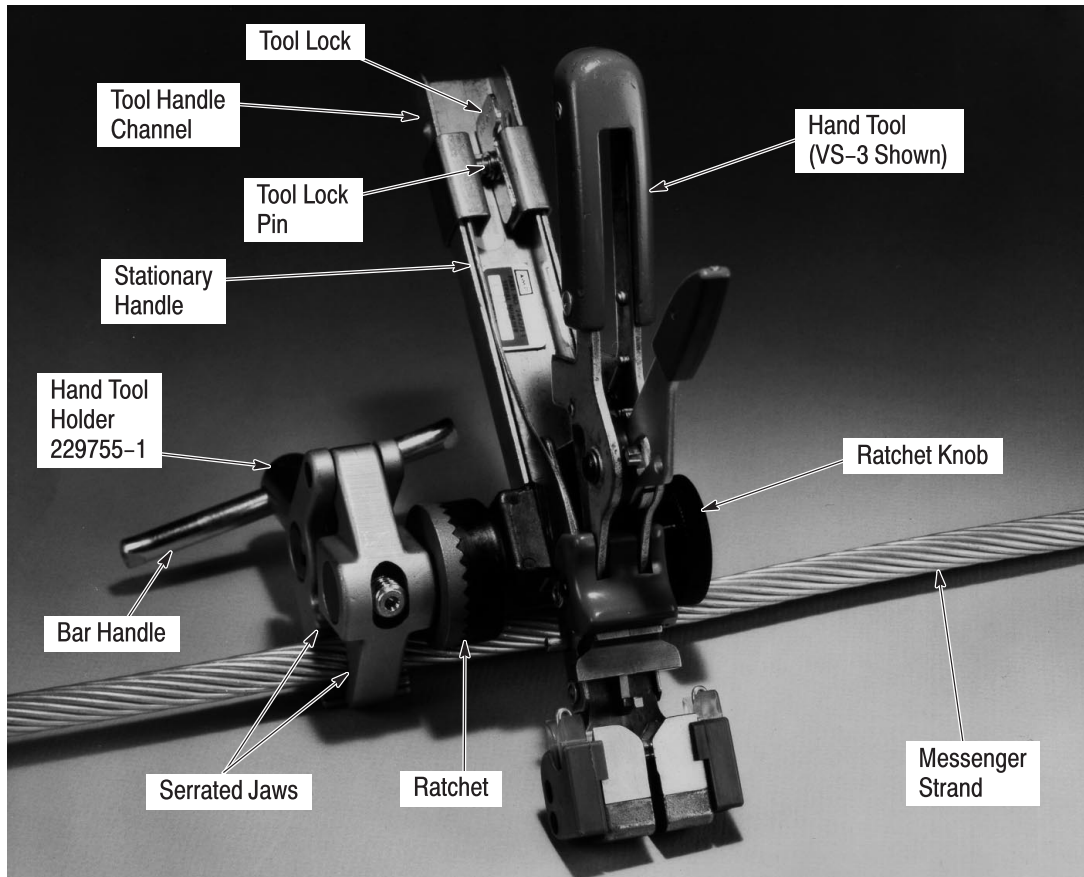

Figure 1
This instruction sheet covers the use of Hand Tool Holder 229755-1 shown in Figure 1. The tool is used to support PICABOND (VS-3) and Mini-PICABOND (MVS-3) connector hand tools during field assembly procedures. Read these instructions and those packaged with applicable hand tools thoroughly before proceeding.
The hand tool holder shown in Figure 1 features a bar handle, serrated jaws, a ratchet, a ratchet knob, a tool
3. ATTACHING TOOL HOLDER (Figure 1)
4. INSTALLING HAND TOOL (Figure 1)